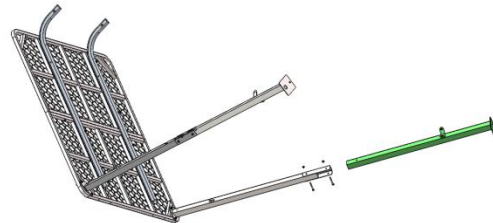

Figure 6
Step 6: Assemble the lower leg (TS305.28) and the attachment bracket brace (TS305.08) to the left upper leg (TS305.09) by using two 1/4"-20×2-1/4" bolts (48271B) and two 1/4" lock nuts(48752B).Leave these hand tight for now (**Figure 6**).